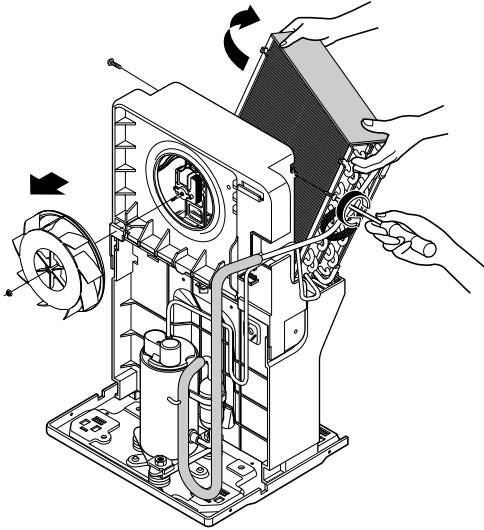

Figure 14
3. Lift the H/E and open the H/E around 45 degree clockwise carefully. (See Figure 14)